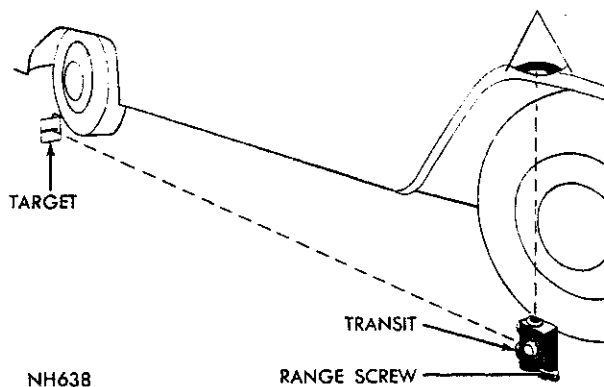

Fig. 1—Determining Slope of Floor
(1) Place transit on floor in line with vertical centerline of right front wheel (Fig. 1). Place split image target in like position at right rear wheel.
(2) Adjust range screw on transit until target split image coincides or merges into one unbroken line.